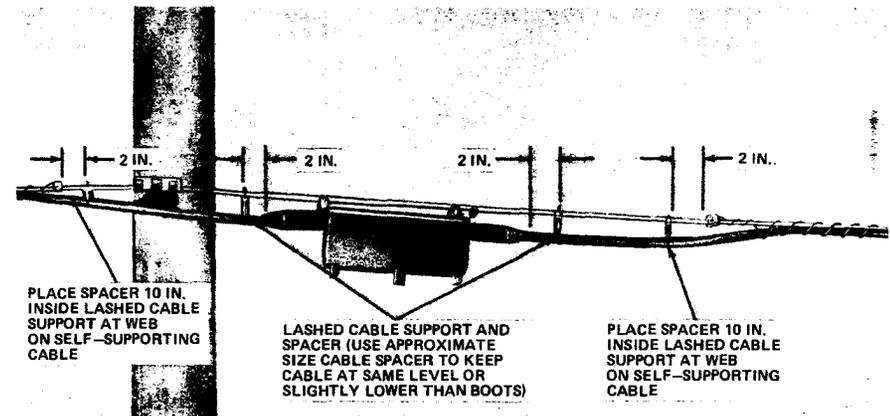

Fig. 20—Installing Cable Spacers
4.11 Close the cover and make sure the snap latches are secured. Place and secure the cable spacers as shown in Fig. 20.